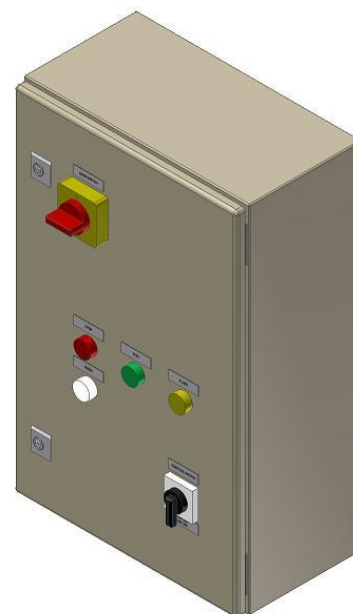

Figure 2.2-7
- Main power switch (red/yellow in Figure 2.2-7) is connected to the motor protection relay. Positions “0” (zero) and “1”. The contact breaker controls the main power to the HX-unit, including the HX control unit.
- Pump power switch (black and white in Figure 2.2-7), positions “0” (zero) and “1”. The contact breaker controls the power to the HX-unit pump (PU11). The pump can be started by turning the switch to position “1”, and stopped by turning it back to position “0”.
- LS11 leak sensor reset switch (white in Figure 2.2-7) resets the leak alarm. To reset the alarm, the liquid must first be removed from the sensor on the HX-unit leakage plate.